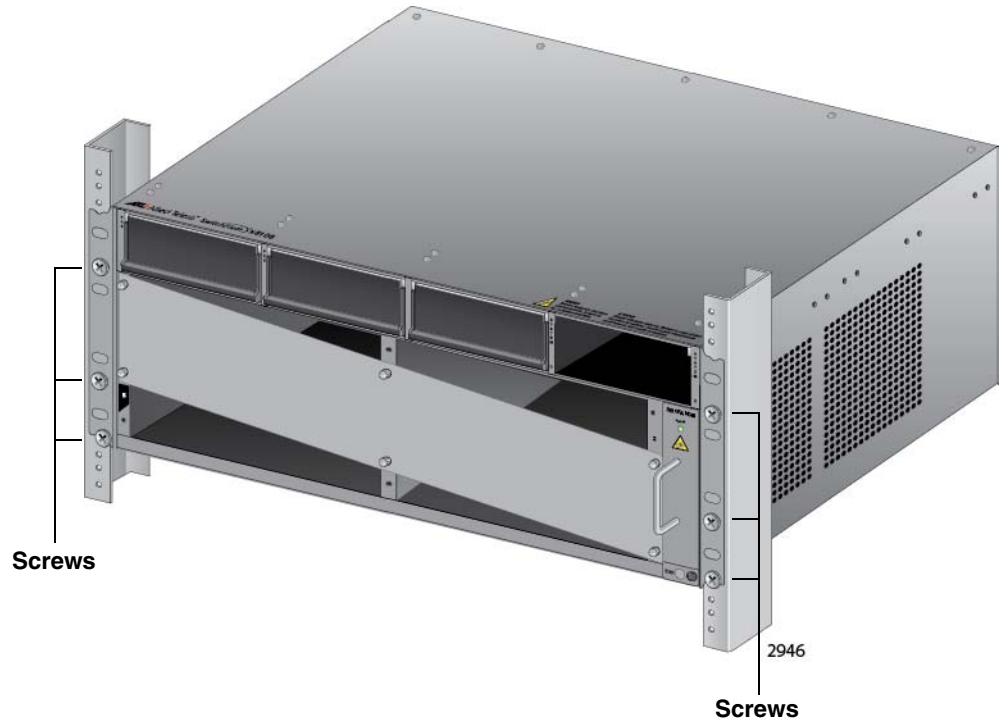

Figure 42. Tightening the Rack Mount Screws
5. Tighten all six screws shown in Figure 42 on page 107 to secure the chassis to the equipment rack, Allied Telesis recommends tightening the screws to 10 inch-lbs.